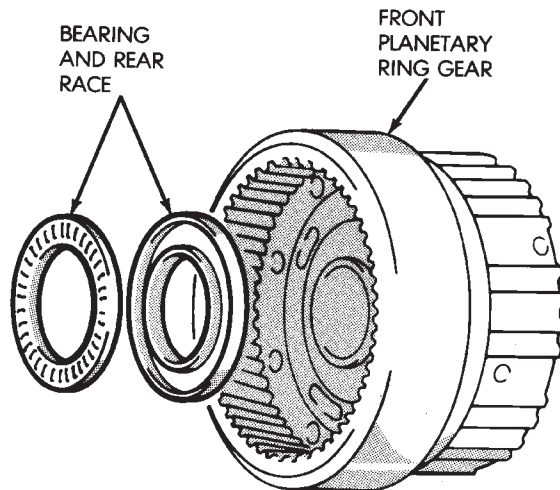

Fig. 34 Removing Ring Gear Bearing And Rear Race
(42) Remove thrust bearing and rear race from ring gear (Fig. 34).